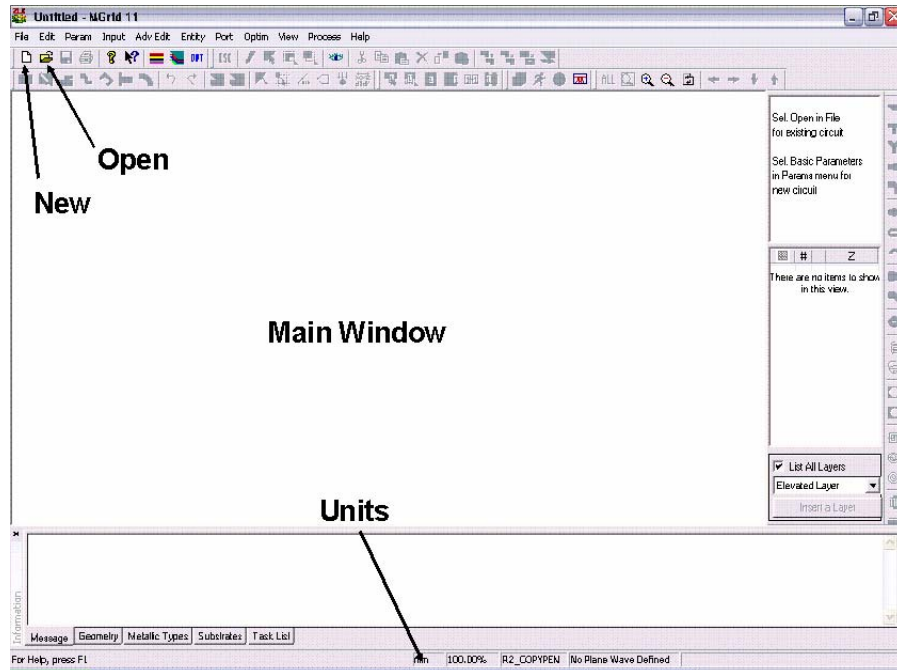

Figure 2. Main view of MGRID
- 3) Click the new button as shown in Figure 2 ()